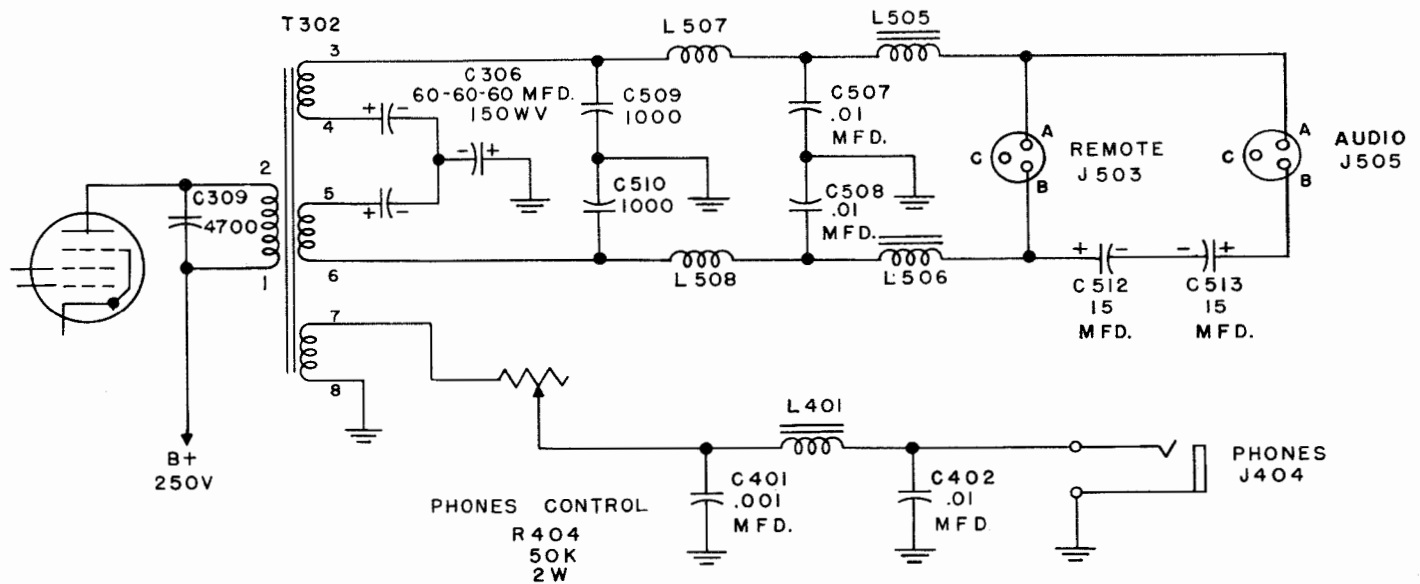

Figure 2-21. Simplified Schematic, Audio RF Filters
(e) AUDIO RF FILTERS.—The audio RF filters are shown in figure 2-21. The high level output winding of T302, is a split winding with a three section electrolytic capacitor C306 used for DC blocking at the electrical (AC) mid-point of the transformer winding so that remote control functions can be inserted by the two leads indicated. (See J503, Figure 2-21). The high level winding of T302 has an output impedance of approximately 300 to 400 ohms, which is center tapped through capacitor C306 to ground. This winding is electrostatically shielded and balanced making it well suited for connecting remote circuits. A two section filter is employed between this winding and the AUDIO receptacle (J505) and the REMOTE receptacle (J503), which are located on the rear filter compartment. One filter section, composed of L505, L506, C507 and C508 is effective over a range of approximately 200 Kc to 8 Mc. Another section composed of L507, L508, C509 and C510 is effective above 8 Mc. The high level audio output passes through these two filter sections and is available at the REMOTE receptacle J503. In addition, the remote control voltages (DC) are coupled through this remote receptacle. Local speakers, or other loads may be connected to the AUDIO receptacle (J505), which